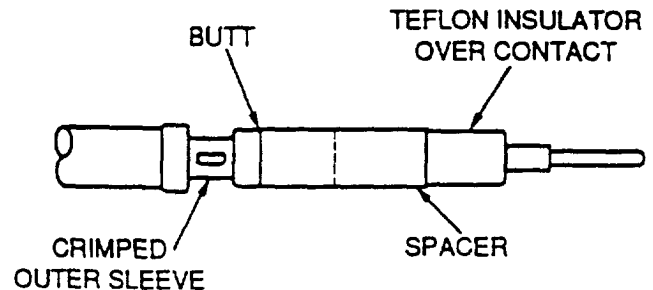

Figure 38. Teflon Insulator
g. Install teflon insulator over contact until it bottoms. Slide outer sleeve to butt spacer and crimp in place using crimp tool frame M22520/20-01 and positioner M22520/20-03 (Figure 38).